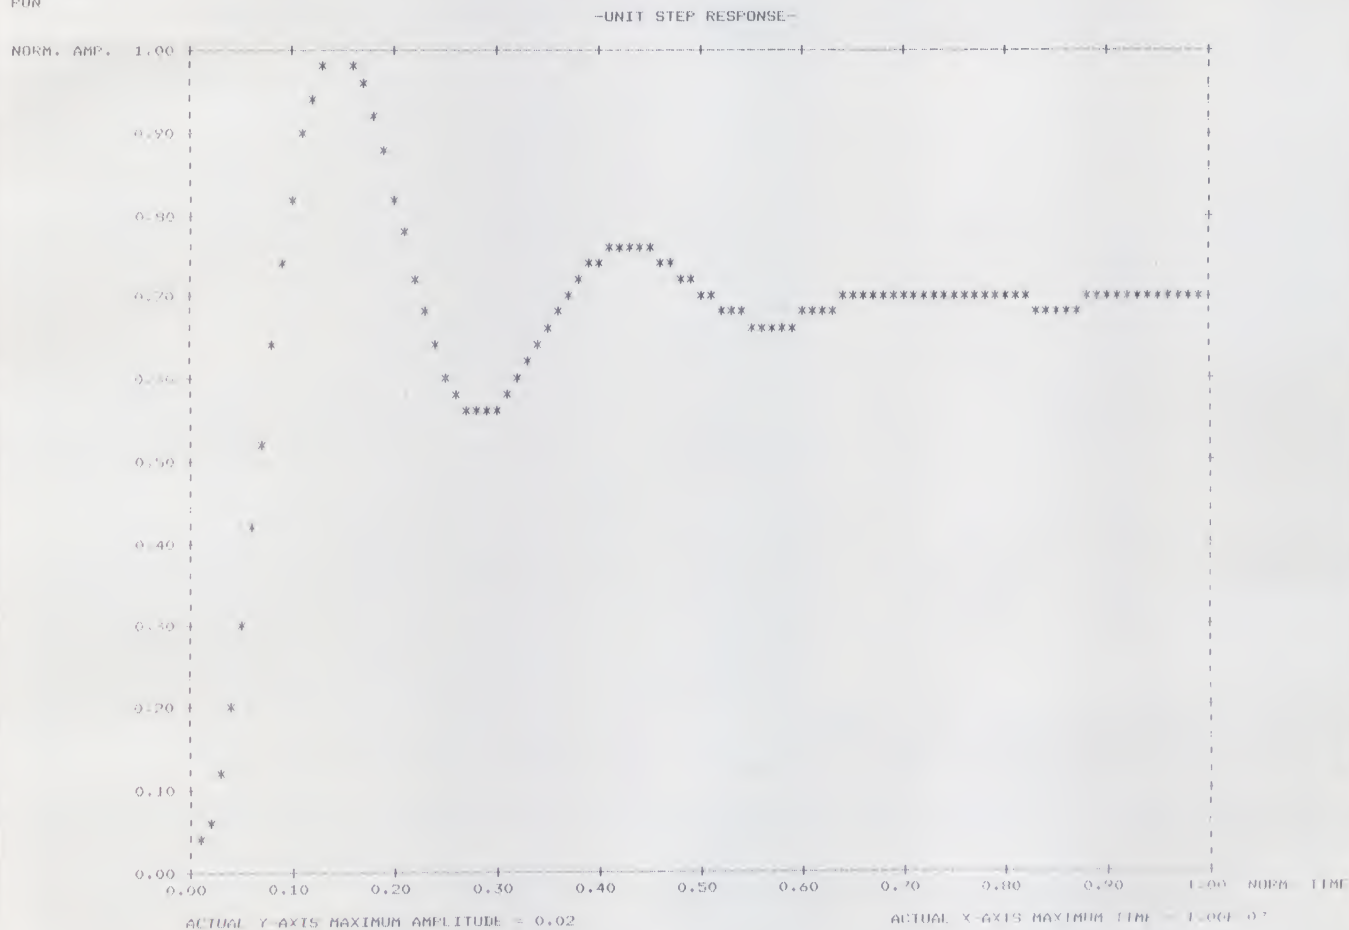

Fig. 1.
The simple example in Fig. 1 shows the format of the output. Lines 110 through 150 calculate the elements of arrays X9(I) and Y9(I). In this case, the X9(I) represents discrete intervals of time, while the Y9(I) is the sinusoidal response of an underdamped second-order system. Pertinent quantities such as rise time, overshoot and settling time are easily obtained from the final graph. ■